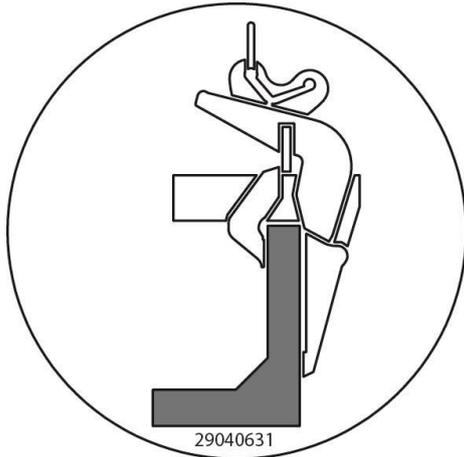

Fig. E1 (Position Lasthub)
- When lifting the first gripping good (L-stone) check, if the gripping good is hanging vertical (or rather **maximum 10° diagonally**) and that the support plate (8) rests on the gripping good (L-stone) → **Fig. D**
- **IMPORTANT:** When gripping and the following lifting and transportation of the gripping good the lifting eye (1) must be in the **front** position of the suspension (2). → (→ **Fig. D, Fig. E1 and E2**).
- According to the position, the suspension (2) must be moved in another position. Therefore remove the two socket pins (B), move the suspension (2) to another position at the supporting arm (3) and insert the two socket pins (B) again. So that the device is hanging almost **vertically** in any case of when lifting and transportation.
- Set the gripping good down on the ground, the device (WEZ) opens automatically, the *automatic release* locks it into position so that the device can be lifted without closing up. Placed the device over the next gripping good, the *automatic release* disengages itself and the gripping good can be lifted, if the supporting arm (3) is moved down completely.